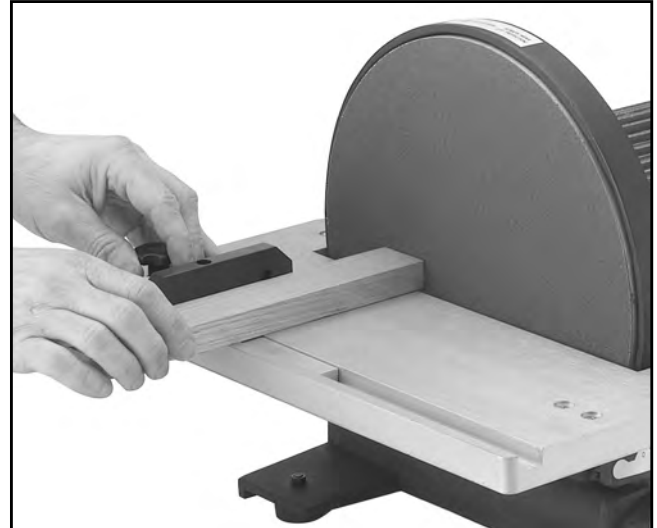

Figure 8. Disc sanding.
2. When a 90° horizontal angle is required, place one surface of the workpiece firmly against the face of the miter gauge (set at 0°), with the other surface against the face of the disc (**Figure 8**).